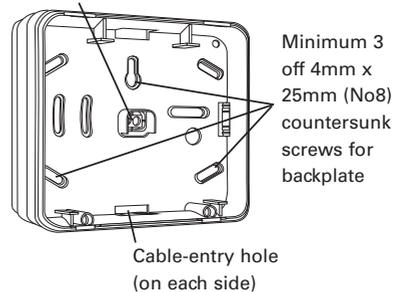

Figure 5. Mounting the backplate of the keypad
2. Secure the tamper block and each corner of the backplate to the mounting surface (Figure 5).